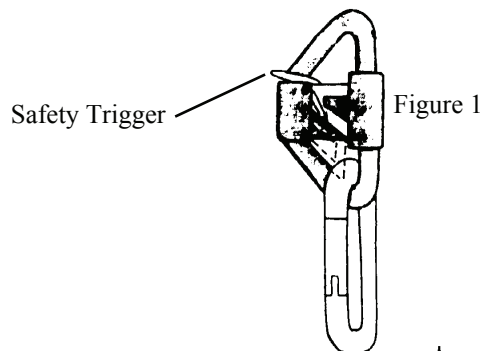

Figure 1
1. Push the safety trigger upward to open the cam gate to attach to the rope (See figure 1).